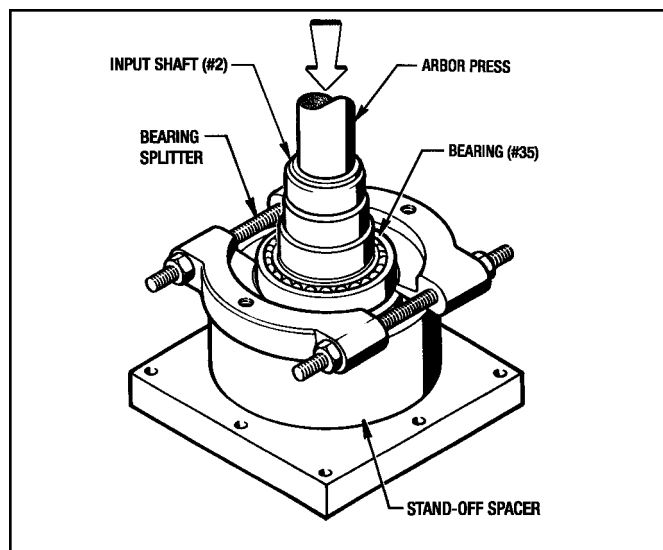

Figure 7.4 - Removing Bearing (#35) from Quill Input Shaft
1. With an Arbor Press and a Bearing Splitter, remove Bearing (#35) from the Input Shaft (#2). (See Figure 7.4)